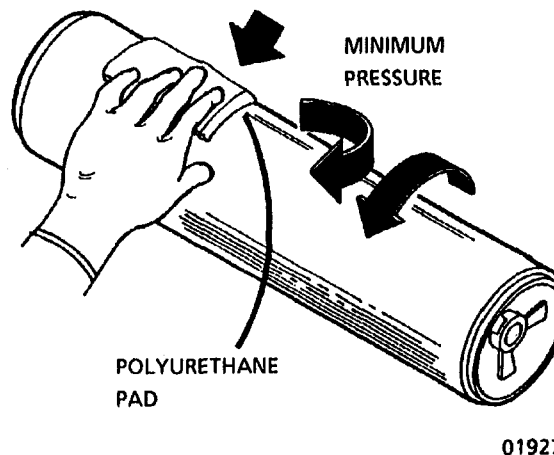

Figure 1. Washing the Drum
5. (Figure 1): Wash the drum from end-to-end using a circular movement.